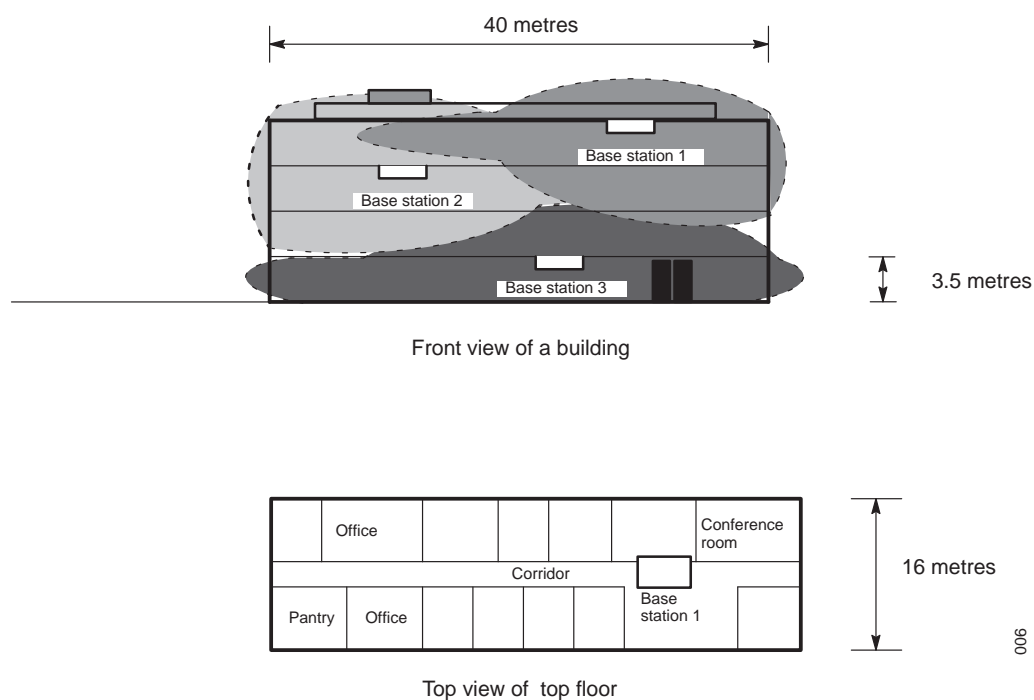

Figure 1. Example of the locations of base stations in a building.
- The in-house cell size in offices can have a radius of between 10 and 30 metres, see figure 1 on page 13. The cell size in exhibition or production halls can have a radius of up to 200 metres.
- Base stations may partially cover the floors immediately above and below. The useful range through floors and ceiling varies between 0 and 8 m (2 floors) radius; see figure 1 on page 13.